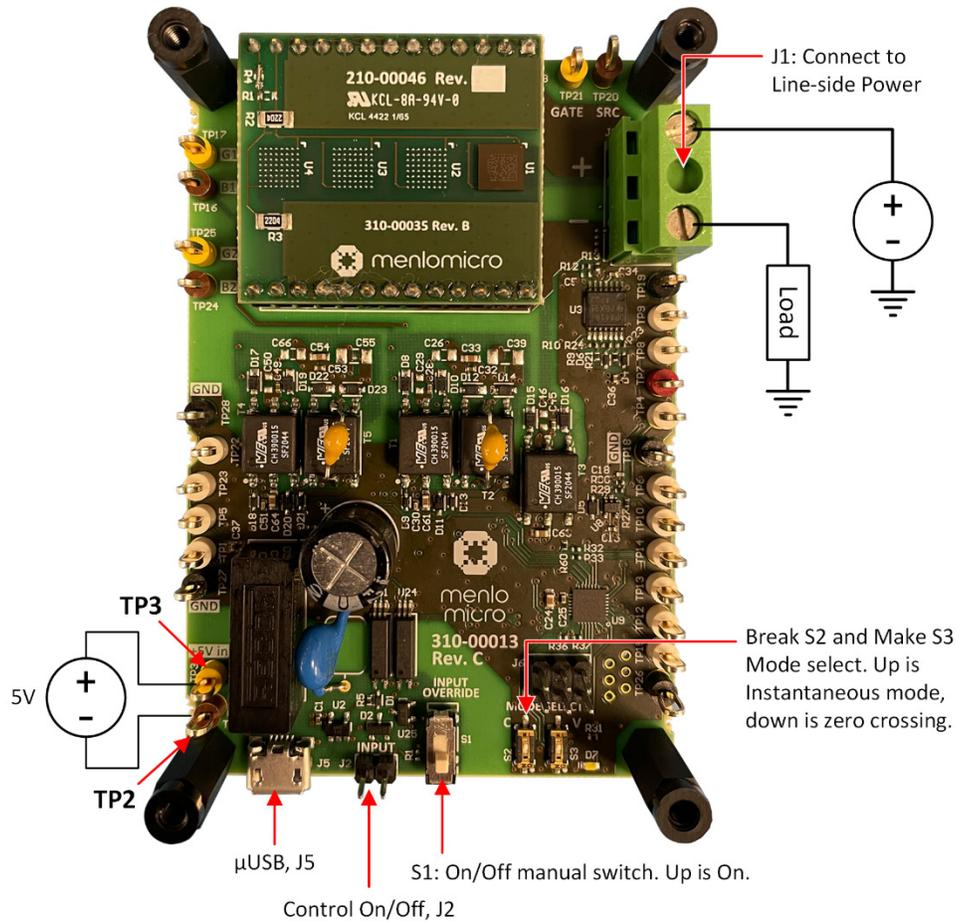

Figure 2. Photo of Relay Board (Top Side) with Typical Use Schematic
The following operational notes refer to the relay board photo shown in Figure 2 above.
When S2 is switched Off (up), instantaneous current Break mode is selected. Break mode is selected. For MM9105-DC boards, the selection must be instantaneous mode for normal operation (see Table 5). Switch positions are described with the relay board oriented as shown in Figure 2 on page 5.
Alternatively, the control side of the relay may be powered through the micro USB connector at J5 shown near the bottom left corner of Figure 2 on page 5. **Do not apply both sources of power simultaneously, use one or the other exclusively.**
5. Connect the J1 + terminal to the line-side power as shown in Figure 2.
6. Connect the J1 - terminal to the load as shown in Figure 2.
- a. Manual: Switch S1 controls relay state with relay open when in down position and relay closed when in up position (board oriented as in Figure 2. **Do not connect control signal to J2 when controlling the relay manually.**
- a. If operating the relay state manually, slide switch S1 to the down position (board oriented as in Figure 2).